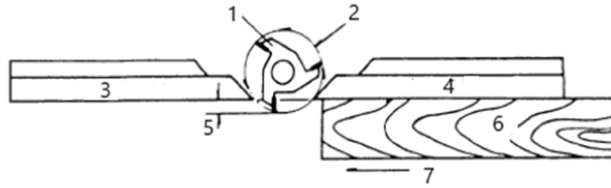

Figure 1
1. For most work, where a portion of the edge of the work is not touched by the cutter, both the front and rear fences are in a straight line, as shown in figure 1.